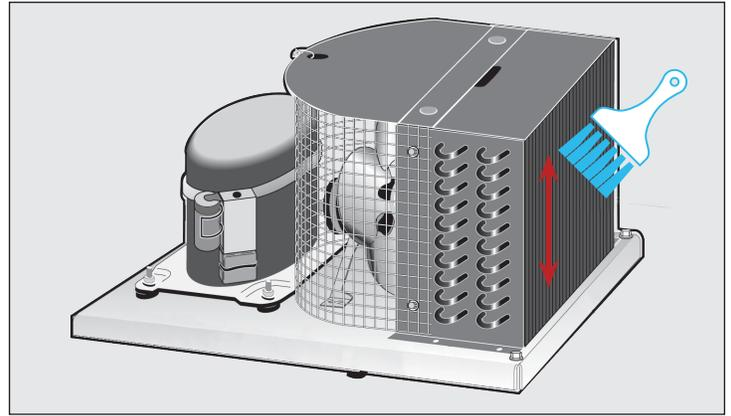

Fig. 2. With a stiff bristle brush clean off accumulated dirt from the condenser coil.
3. With a stiff bristle brush carefully clean accumulated dirt from the front condenser coil fins. See fig. 2.